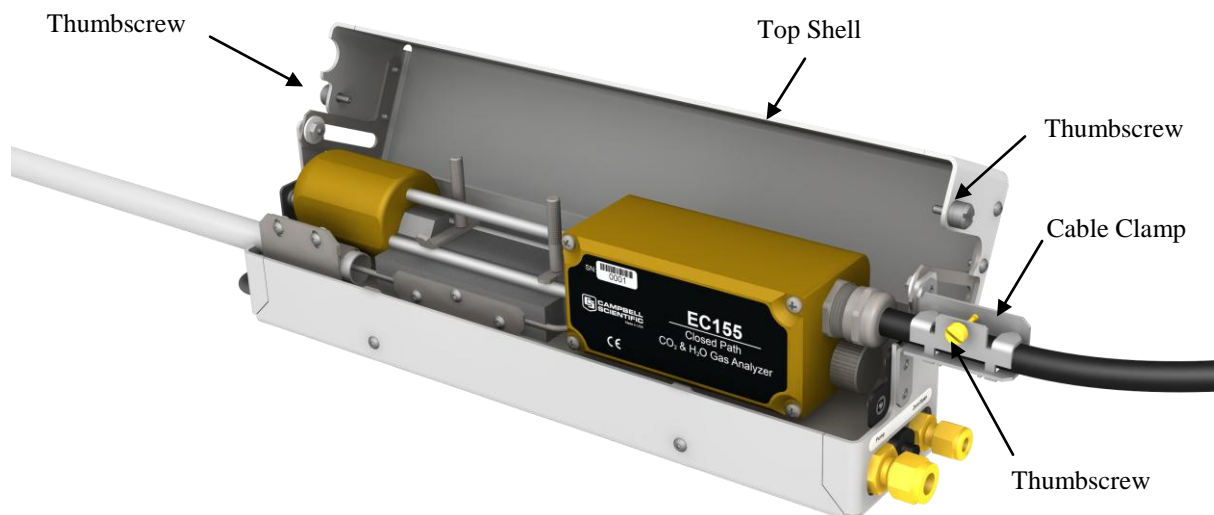

Figure 9-2. The EC155 analyzer with the top shell open
- b. Loosen the two captive thumbscrews (one on each end of the EC155), and lift the top portion of the EC155 shell, leaning it back against the lower shell. See Figure 9-2.